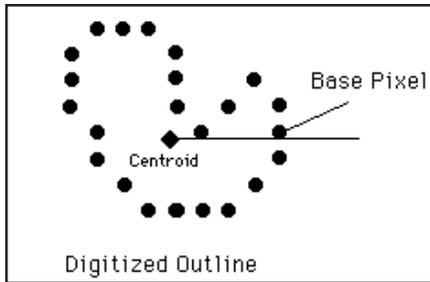

Figure 8.5. Finding the base pixel.
- 1) Determine the base (or starting) pixel. A preliminary centroid is calculated by averaging the  $x$  and  $y$  coordinates, respectively, of the pixels of the initial shape. Now, starting at the preliminary centroid, a scan is made towards the right until a pixel of the initial shape is reached. This is the base pixel (Fig. 8.5)